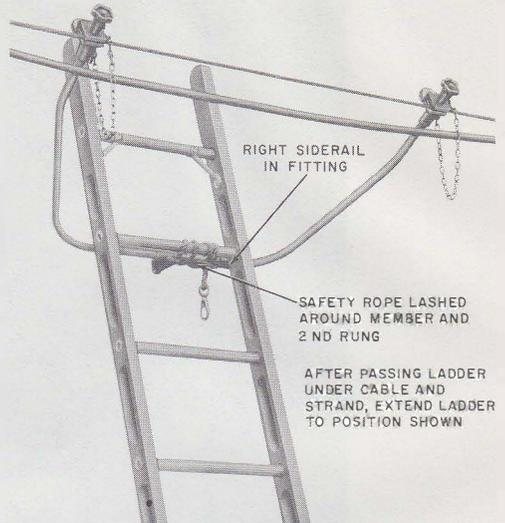
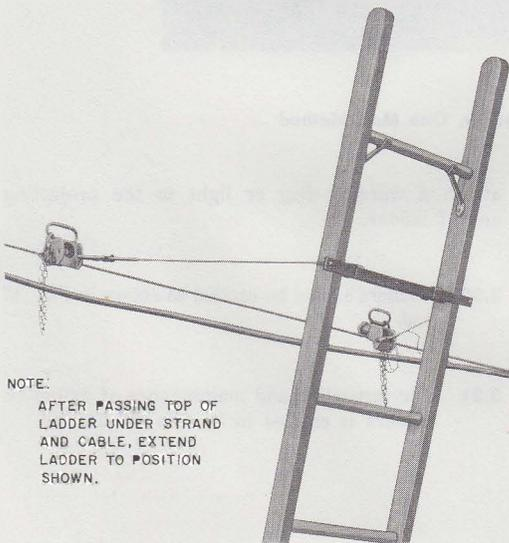

Fig. 8—C Ladder Support
Fig. 7—B Ladder Support
3.09 The use of the B (Fig. 7) or C (Fig. 8) Ladder Support permits sitting or standing between the ladder and cable. After the support has been fastened to the ladder and the strand the ladder must be lowered or the foot of the ladder moved out until the ladder falls beneath the strand and cable. Readjust height of ladder to that shown in Fig. 7 and 8.